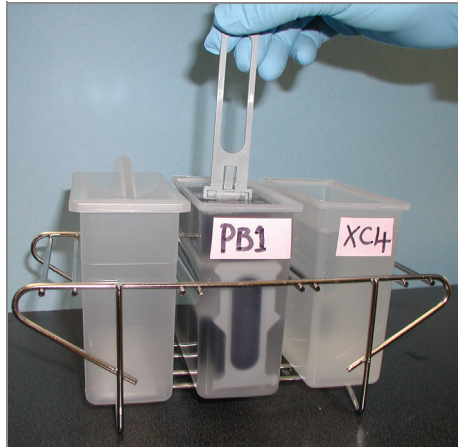

Figure 183 Washing BeadChips in PB1
9. Move the staining rack up and down 10 times, breaking the surface of the PB1 (Figure 183).